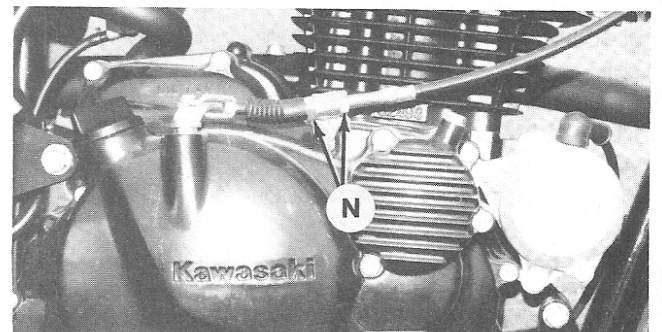

Fig. K7-18—Loosen adjusting nuts (N) on models so equipped, to slacken clutch cable during clutch adjustment.
To adjust the clutch, first loosen the adjuster (1—Fig. K7-17) on KLT200-A1, KLT200-A2, KLT200-A3, KLT200-A4 and KLT200-A4A models or the adjusting nuts (N—Fig. K7-18) on all other models until excessive slack is present. On all models, loosen knurled locknut (L—Fig. K7-19) at clutch lever and turn adjuster (A) so 5-6 mm (3/16-15/64 in.) of screw threads are exposed with locknut flush against lever bracket. Remove all cable slack with adjuster (1—Fig. K7-17) and secure with locknut (2) or with adjusting nuts (N—Fig. K7-18) and tighten nuts. Turn adjuster (A—Fig. K7-19) until clutch lever has 2-3 mm (5/64-1/8 in.) of free travel measured at gap between lever and base as shown at (F). Secure adjuster with locknut (L).